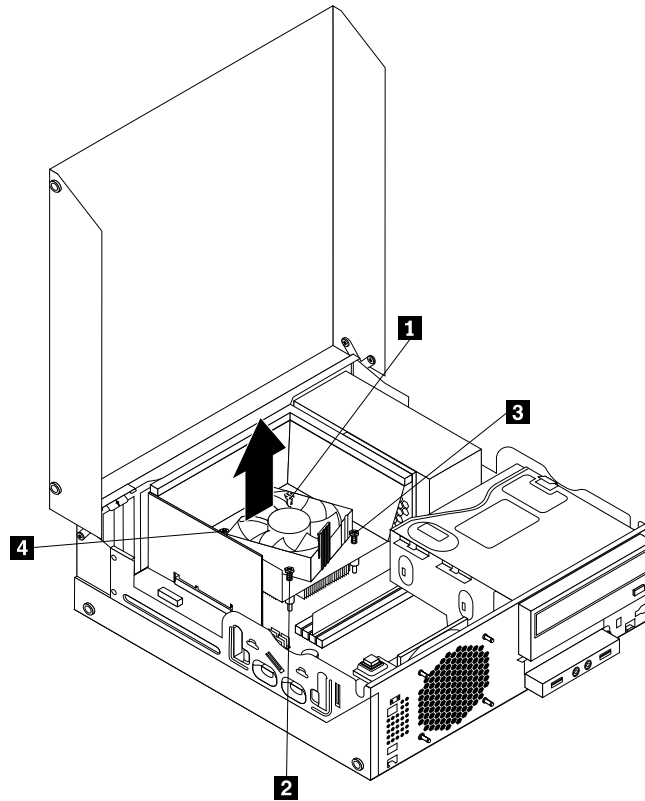

Figure 45. Screws that secure the heat sink and fan assembly
- Follow this sequence to install the four screws to secure the new heat sink and fan assembly, as shown in Figure 45 “Screws that secure the heat sink and fan assembly” on page 60: